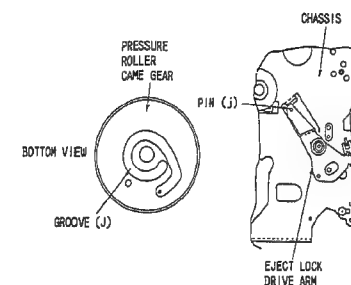

Fig. 3-3
Caution: When reinstalling the pressure roller cam gear, set the eject lock drive arm to the position shown in Fig. 3-3 and check that pin (j) is inserted into groove (J) in the back of the pressure roller cam gear.